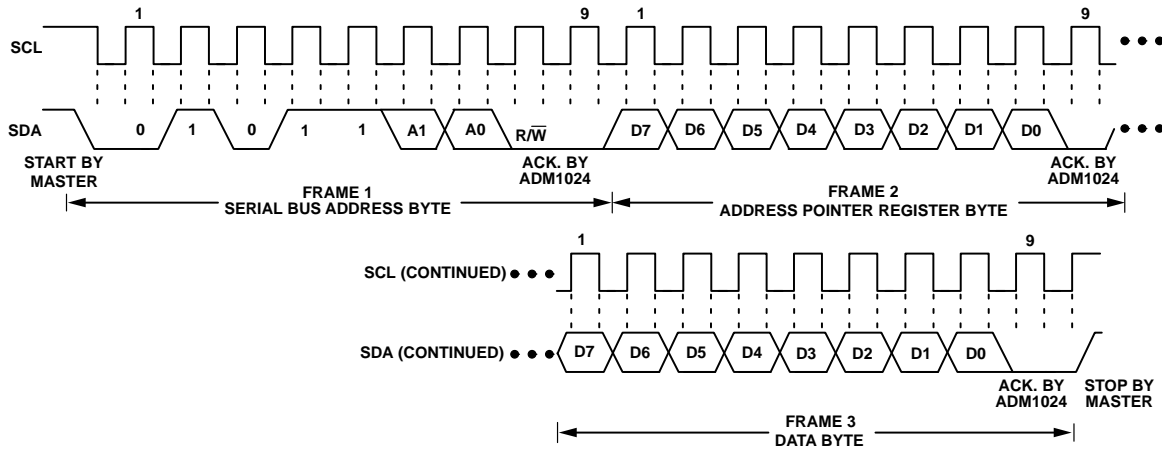
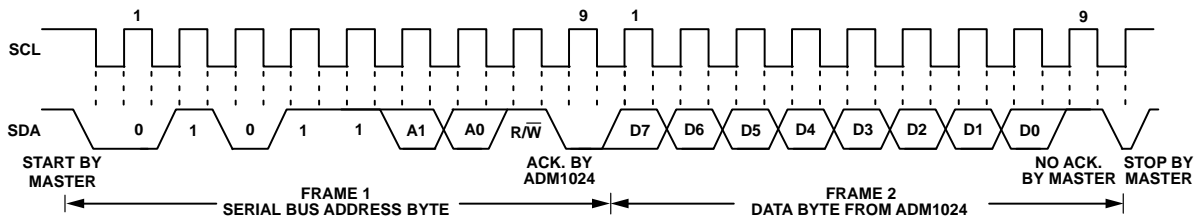

Figure 10. Writing a Register Address to the Address Pointer Register, then Writing Data to the Selected Register
Figure 12. Reading Data from a Previously Selected Register
To write data to one of the device data registers or read data from it, the Address Pointer Register must be set so that the correct data register is addressed, then data can be written into that register or read from it. The first byte of a write operation always contains an address that is stored in the Address Pointer Register. If data is to be written to the device, the write operation contains a second data byte that is written to the register selected by the Address Pointer Register. This is illustrated in Figure 10 The device address is sent over the bus followed by R/\overline{W} set to 0. This is followed by two data bytes. The first data byte is the address of the internal data register to be written to, which is stored in the Address Pointer Register. The second data byte is the data to be written to the internal data register.
the serial bus address, R/\overline{W} bit set to 1, followed by the data byte read from the data register. This is shown in Figure 12.
2. In Figure 10 to Figure 12, the serial bus address is shown as the default value 01011(A1)(A0), where A1 and A0 are set by the three-state ADD pin.